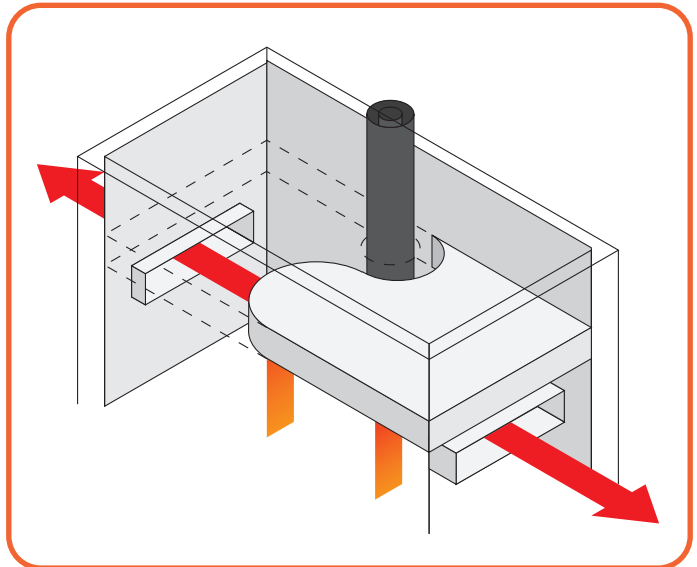

Figure 7.2 - False chimney in the enclosure
**Pro tip:** To avoid heat accumulation in the enclosure a non-flammable false ceiling (see **Figure 7.2**) is to be placed directly above the outlets to guide the hot air out. The ventilation grilles need to be easy to clean at all times.